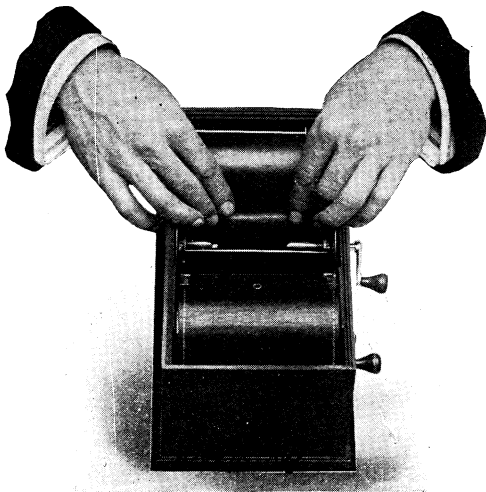

FIG. 2.
6. Thread the paper underneath the wire guard on transferring reel through which axle "D" passes (Fig. 2) and turn axle slowly to right until the word "stop" appears on red paper.